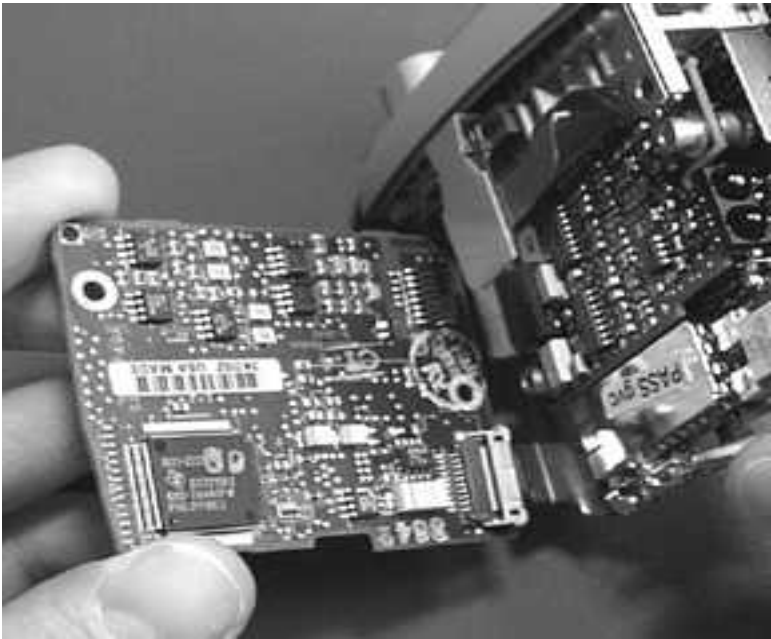

Figure 6-8 Connect the Main PCB to the SpO₂
Step 7. Hold the red tab connector on the ECG PCB out of the way and fold the SpO₂ board onto the other boards. See Figure 6-8.